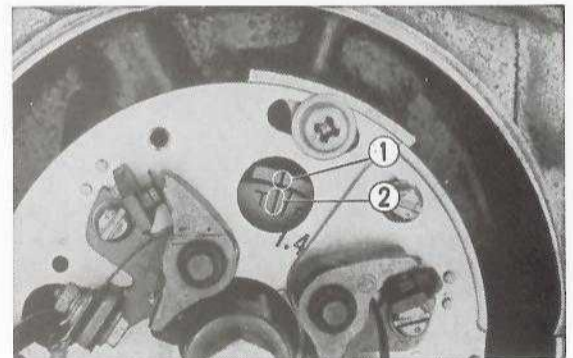

Fig. 3-39 ① Index mark
- Position the No. 1 and No. 4 cylinders to the top-dead-center by turning the crankshaft and aligning the No. 1 and No. 4 "T" marks on the spark advancer to the index mark (Fig. 3-39). During this operation, check the movement of the cam chain to make sure that it is properly fitted on the timing sprocket.